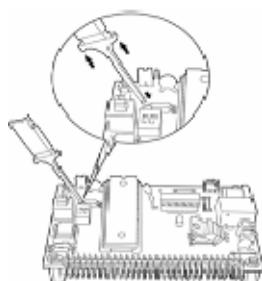

Fig. 2-10
- 3-3. Place the metal prongs on a metal connector on the testing board and release the fingers so that the prongs can grip the metal connector (Fig. 2-10).